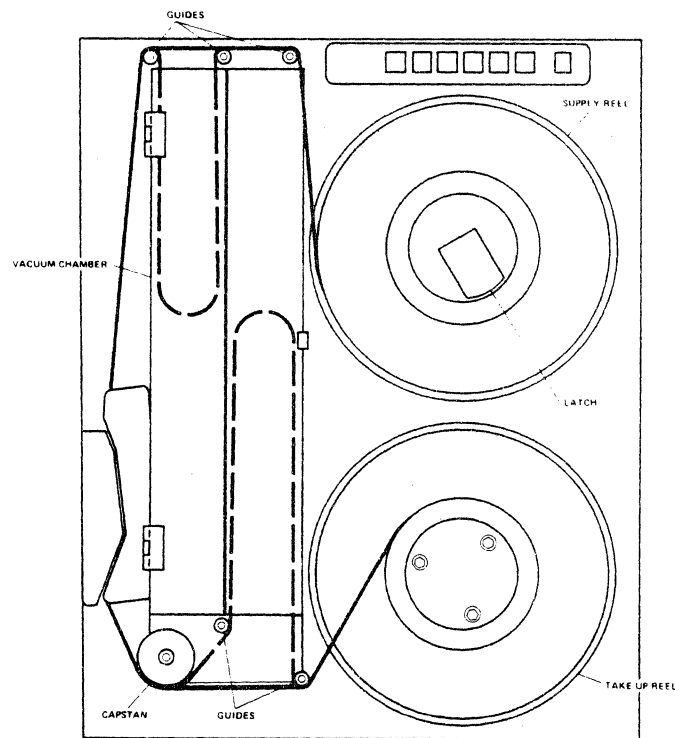

Figure 3-2. Tape Threading Path
- d. Refer to the tape threading diagram inside the front cover or to figure 3-2 and thread the tape as shown.